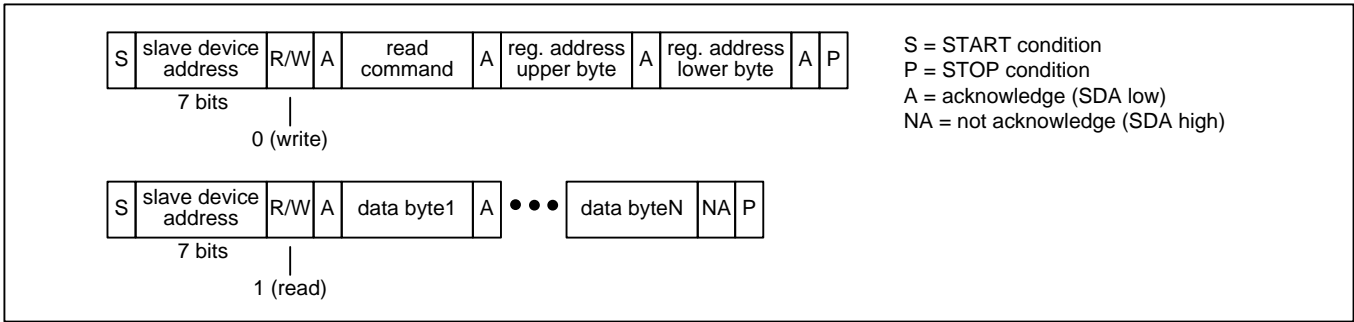
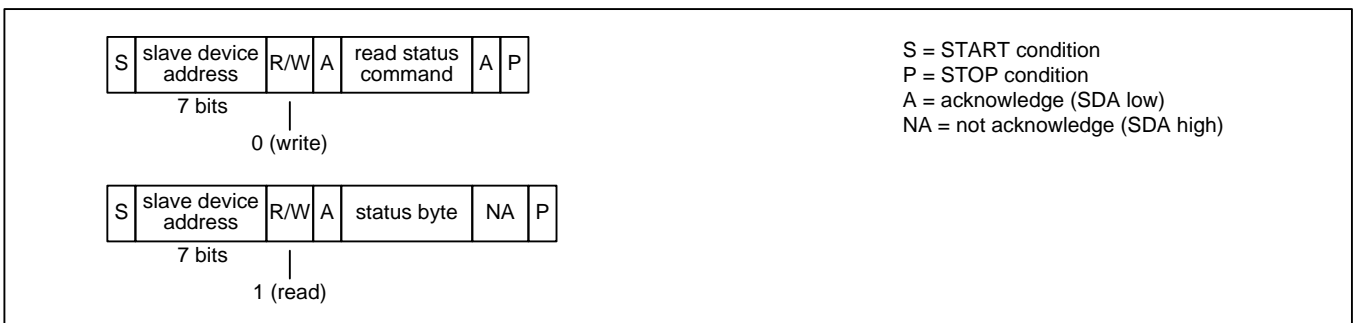

Figure 15 – I²C Read Transaction Functional Timing
Figure 18 – I²C EEPROM Read Status Transaction Functional Timing
Read Transactions. The device registers are accessible when $EESEL=0$. The internal EEPROM memory is accessible when $EESSEL=1$. The bus master first does an I²C write to the device. In this transaction three bytes are written: the SPI Read command (see Table 4), the upper byte of the register address, and the lower byte of the register address. The bus master then does an I²C read. During each acknowledge (A) bit the device fetches data from the read address and then increments the read address. The device then transmits the data to the bus master during the next 8 SCL cycles. The bus master terminates the read with a not-acknowledge (NA) followed by a STOP condition (P). See Figure 15. Note: If the I²C write is separated in time from the I²C read by other I²C transactions then the device only outputs the data value from the first address and repeats that same data value after each acknowledge (A) generated by the bus master.
EEPROM Read Status. The bus master first does an I²C write to transmit the SPI Read Status command (see Table 4) to the device. The bus master then does an I²C read to get the status byte. In this byte, the least significant bit is set to 1 if the transfer is still in progress and 0 if the transfer has completed. See Figure 18.
Note: In Figure 15 through Figure 18, a STOP condition (P) immediately followed by a START condition (S) can be replaced by a repeated START condition (Sr) as described in the I²C specification.